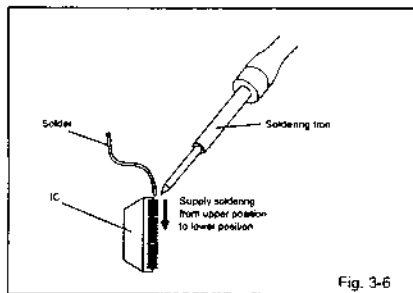

Fig. 3-6
2. Supply the solder from the upper position of IC sliding to the lower position of the IC leads. (Refer to Fig. 3-6.)